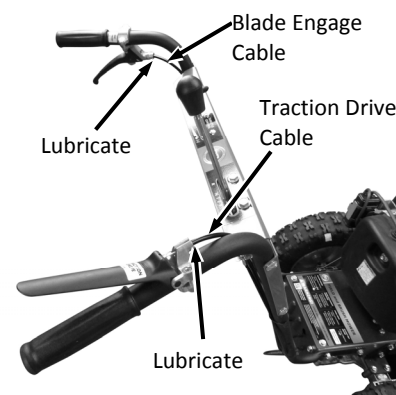

Figure 18
1. Lubricate the Traction Drive and Blade Engagement Cables with SAE 30 Oil (Figure 18). Apply the lubricant into the cable housing while working the cable back and forth a few times. You should do this at both ends of the cables. Perform this lubrication more often in dry and dusty environments.